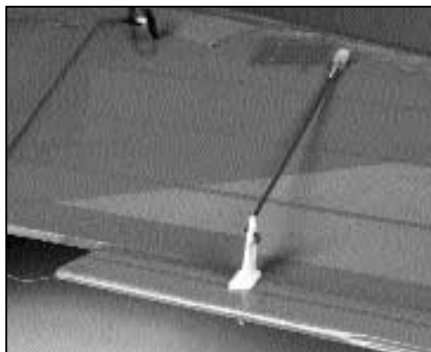

fig.10
- ❑ 4. The final pushrod installation should now look like fig. 10.